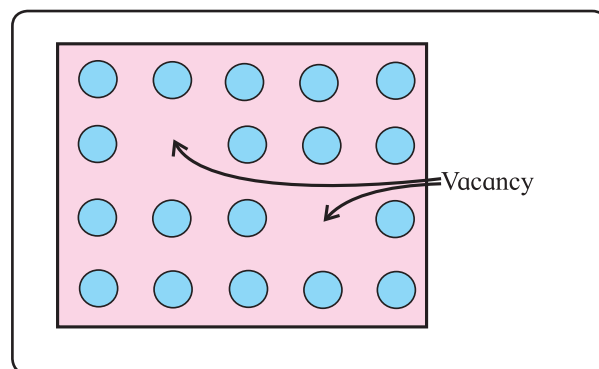

Fig. 1.12 : Vacancy defect
i. Vacancy defect : During crystallization of a solid, a particle is missing from its regular site in the crystal lattice. The missing particle creates a vacancy in the lattice structure. Thus, some of the lattice sites are vacant because of missing particles as shown in Fig. 1.12. The crystal is, then, said to have a vacancy defect. The vacancy defect can also be developed when the substance is heated.